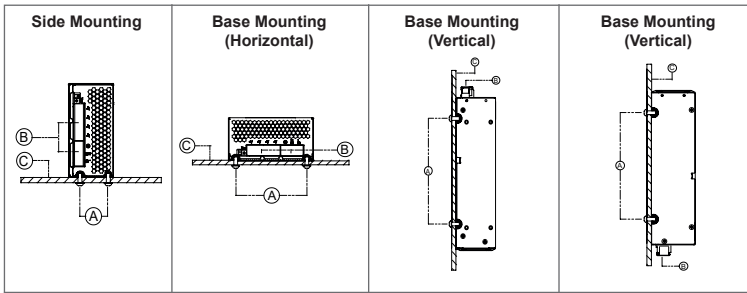
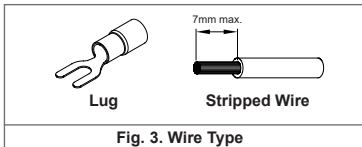

Fig. 2. Mounting Orientations
Fig. 3. Wire Type
- ① Input terminal block connector
- ② Output terminal block connector
- ③ DC voltage adjustment potentiometer
- ④ Signal Connector
- ⑤ DC OK control LED (Green)
- ⑥ DC Fan
The unit is protected with internal fuse (not replaceable) at L pin and it has been tested and approved on 20A (UL) and 16A (IEC) branch circuits without additional protection device. Refer to Fig. 2.:
- (A) Mounting holes for power supply assembly onto the mounting surface. The power supply shall be mounted on minimum 4 mounting holes using M4 screw.
- (B) Input / Output connector
- (C) This surface belongs to customer's end system or panel where the power supply is mounted.
- Use flexible cable (stranded or solid) of AWG No. 14-12. The torque at the Input connector shall not exceed 11.98Kgf.cm. The torque at the Output connector shall not exceed 16.59Kgf.cm. The insulation stripping length should not exceed 0.275" or 7mm (Refer to Fig. 3).
- AWG No. 14-12 ケーブルを使用して接続して下さい。コネクターへの締め付けトルクは入力端子側 11.98Kgf.cm 以内、出力端子側 16.59Kgf.cm 以内として下さい。ケーブル皮膜の除去は 0.275" (7mm) 以内として下さい（図 3 参照）。